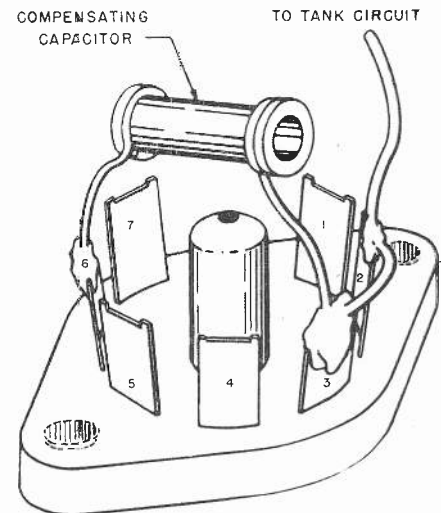

Fig. 3
Fig. 1 shows the circuit for a conventional oscillator circuit using a 6BE6. Fig. 2 shows frequency drift before and after compensation. Fig. 3 shows how to mount the capacitor across the screen grid (6) and heater (3) terminals of the 6BE6 socket. This is equivalent to connecting between cathode tap on the coil and ground. Make capacitor leads as short as possible. The capacitor will receive more heat connected to the heater terminal